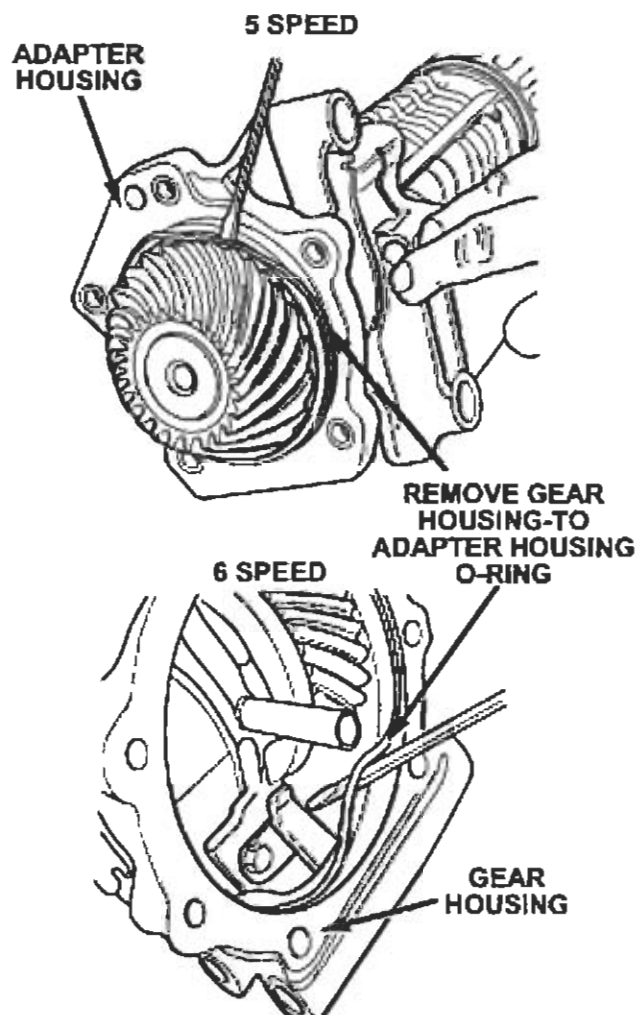

Figure 10
20. Remove the gear housing-to-adapter housing O-ring (Figure 10). Use care to not damage the O-ring seat.
45. Lubricate the supplied gear housing-to-adapter housing O-ring with Mopar 75W-90/GL-5 Gear Lube. Install the O-ring onto the adapter housing (5-speed) or into the gear housing (6-speed) (Figure 10). Make sure that the O-ring is not twisted.